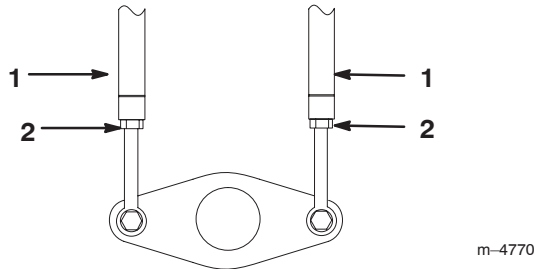

Figure 28
3. Loosen the jam nuts on the traction rods, under the control panel (Fig. 28).